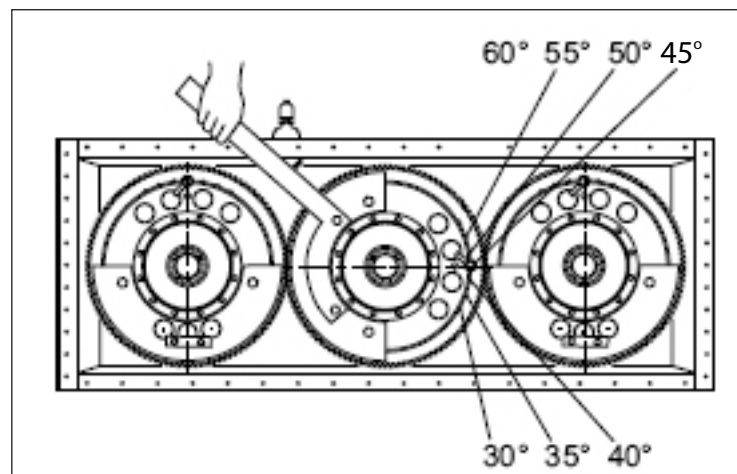

Figure 9.67 - Timing Notch Identification
8. Have a co-worker help with this step. Use the timing wrench to turn the centre weight up toward feed end of screen. Align the notch in the weight disc with notch in gear that matches timing angle you want, Ref: Figure 9.67. Each notch represents a 5° change in stroke angle. Install key-bolt lock washer and key bolt. Turning centre weight clockwise 1/4-turn (90°) aligns notches for a 45° stroke angle. For a steeper stroke angle, turn centre weight less than 90°.
4. Check the tension of the belt by pushing down on it in the center and measuring the deflection (Item A, Ref figure 9.67).